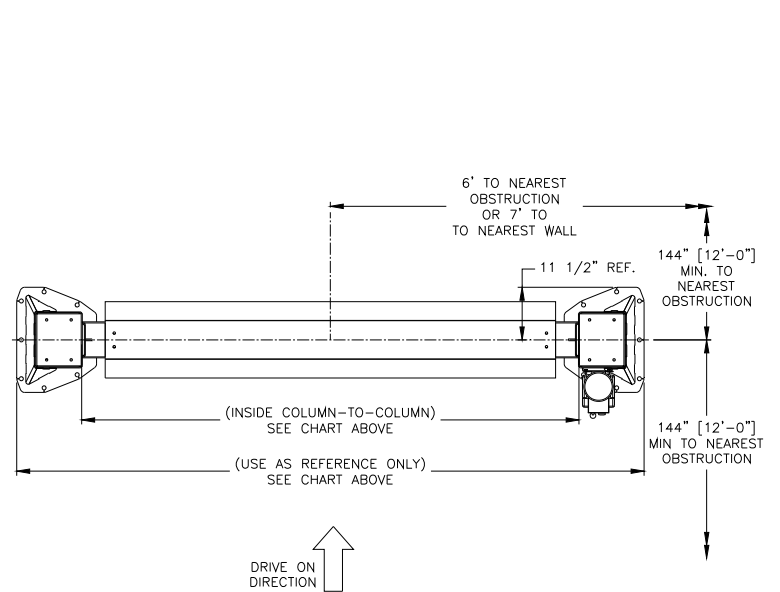

Fig 1b - Service Bay Layout
- Layout the service bay according to the architect's plans or owners instructions (**see Fig 1b**). **Failure to install in this orientation can result in personal and property damage.** Be certain that the proper conditions exist, see page 3.
- Recheck "Inside of Columns" dimension (**Fig. 1b**).
**Complete steps 5 thru 7 for the seven (7) exposed anchors (one at a time) around each column.**